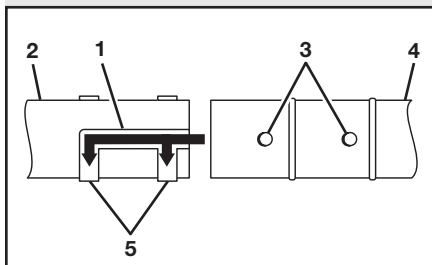

Fig. 3
1. Slide the slots (1) in the nozzle (2) over the matching keys (3) on the air tube (4) (Fig. 3).
2. Push the nozzle fully onto the air tube until the locking keys on the air tube align with the locking slots (5) in the nozzle.